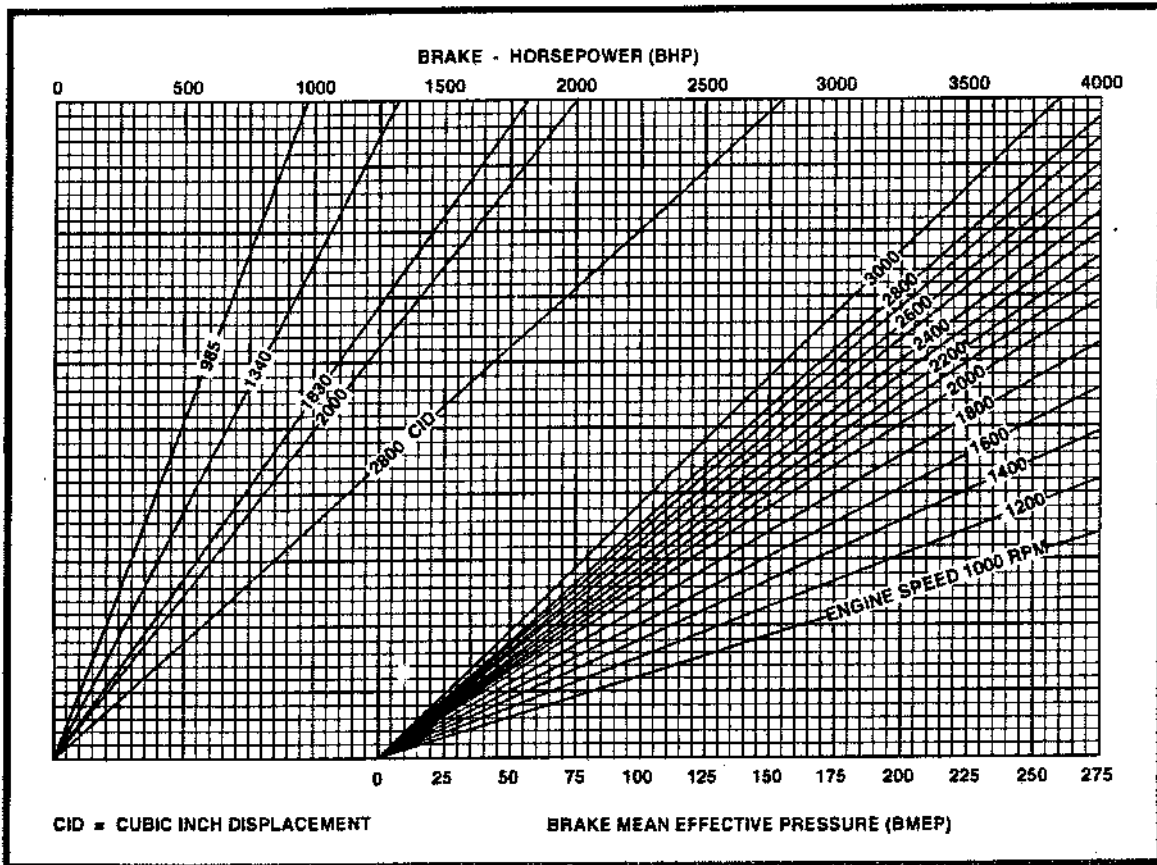

Fig. 3.13. Performance Chart.
43. (Refer to figure 3.13) An aircraft reciprocating engine has a 1,830 cubic-inch displacement and develops 1,250 brake-horsepower at 2,500 RPM. What is the brake mean effective pressure ?
44. (Refer to figure 3.13) An aircraft reciprocating engine has a 2,800 cubic-inch displacement, develops 2,000 brake-horsepower, and indicates 270 brake mean effective pressure. What is the engine speed (RPM) ?
45. (Refer to figure 3.13) An aircraft reciprocating engine has a 2,800 cubic-inch displacement and develops 2,000 brake-horsepower at 2,200 RPM. What is the brake mean effective pressure ?